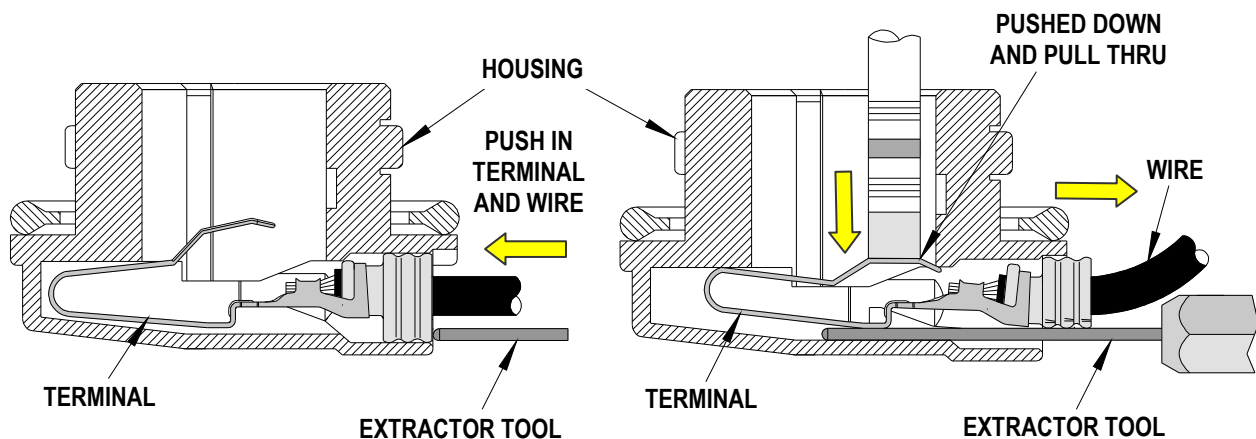

Figure 4
5. Pull the terminal and wire out of the hole. See Figure 4.